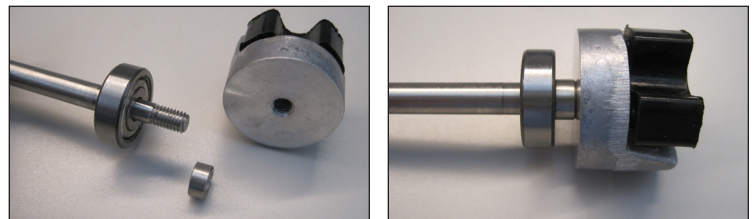

Figure 13 A & B
- 4. Reinstall** the half coupling, spacer bushing, bearing and shaft (items 2, 3, 4, & 5 indicated on the Exploded View Drawing) as an assembly into the head. If the bearing needs to be replaced see section 2 of the disassembly instructions on the prior page. See figures 13 A & B.